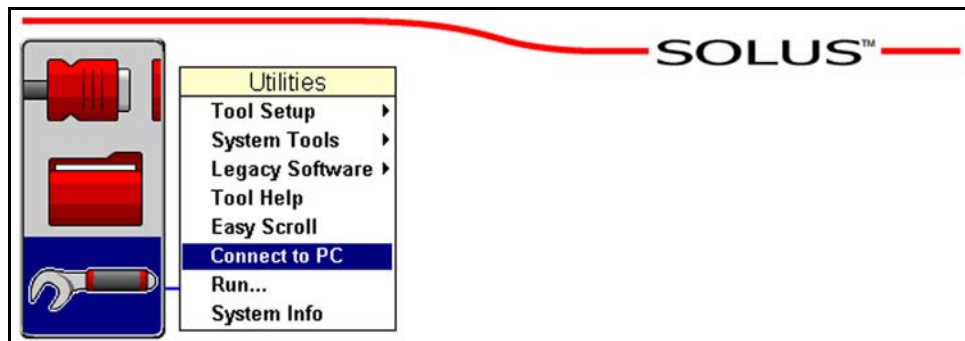

Figure 2-18 Sample SOLUS utilities menu
2. From the Main Menu, navigate to **UTILITIES > Connect to PC** (Figure 2-18).